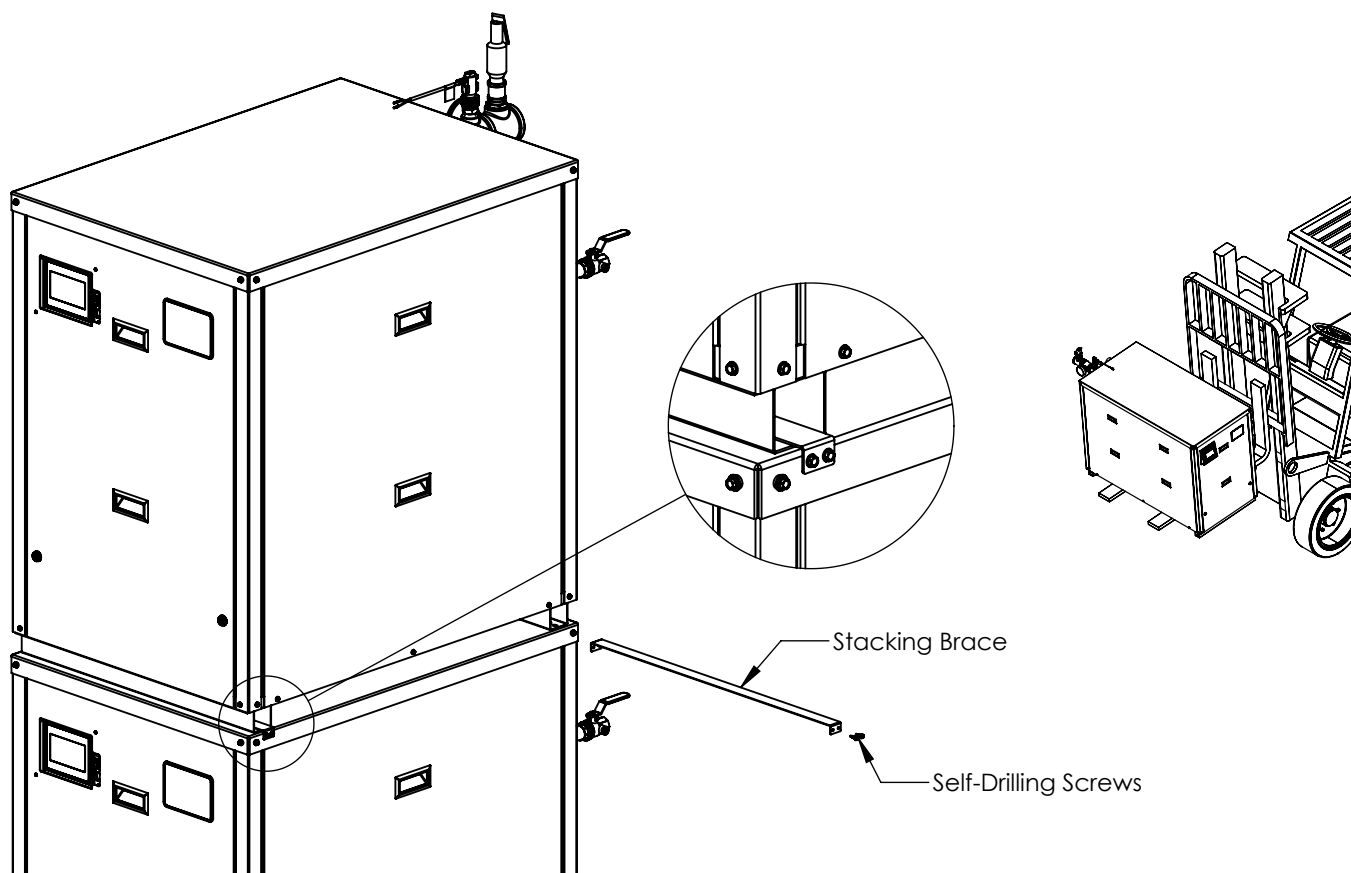

Figure 7: Lifting and Stacked Mounting
- b. Use the included screws to secure the brace as shown in Figure 7.